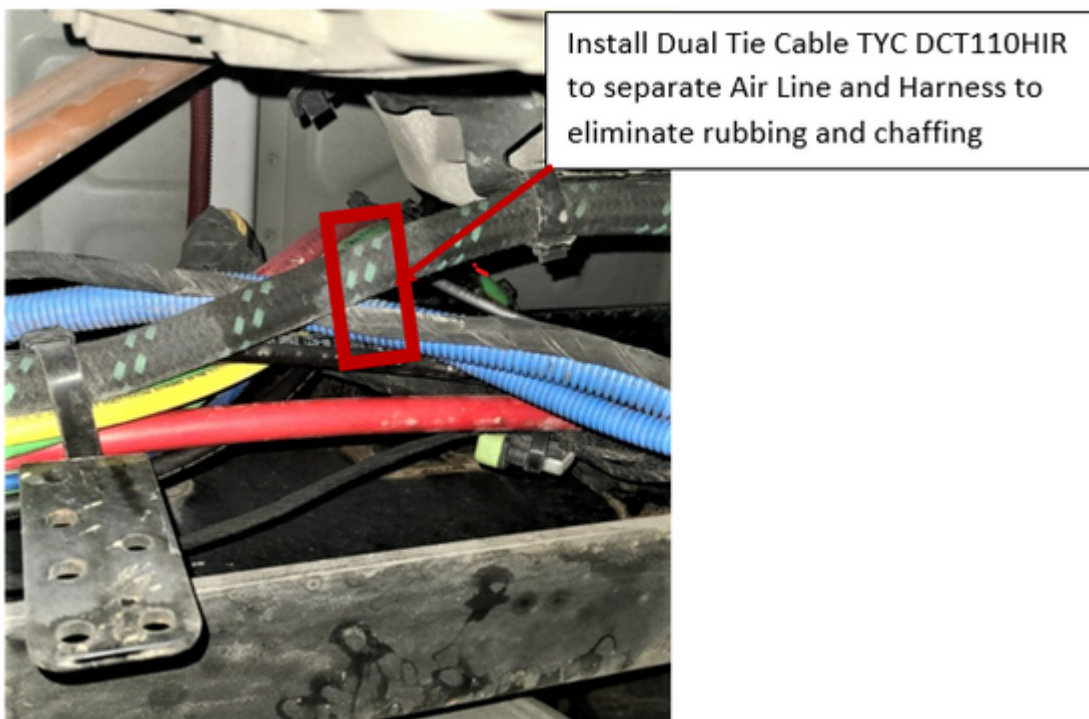

Figure 3: Installation of Dual Tie Cable to separate Harness and Air Line Hose.
- Install Dual Tie Cable to separate Harness and Wire Braided Air Line as shown in Figure 3. Required part, TYC DCT110HIR (TIE-CABLE, DUAL, .375 TO 2.25) one piece and clip-route Harness as per installation diagram D66-12713-001.